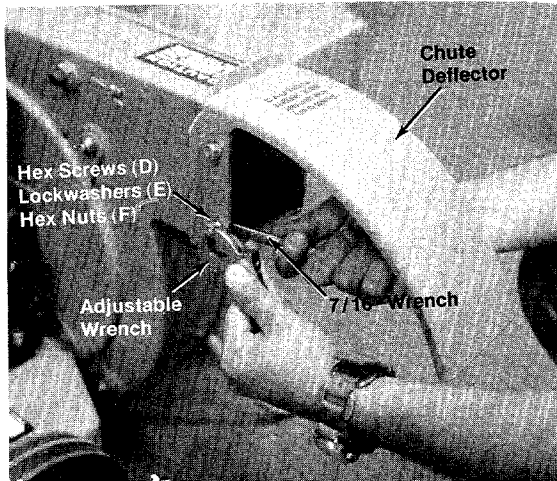

FIGURE 3.
- B. Secure with four hex screws (D), lockwashers (E) and hex center locknuts (F). See figure 3.